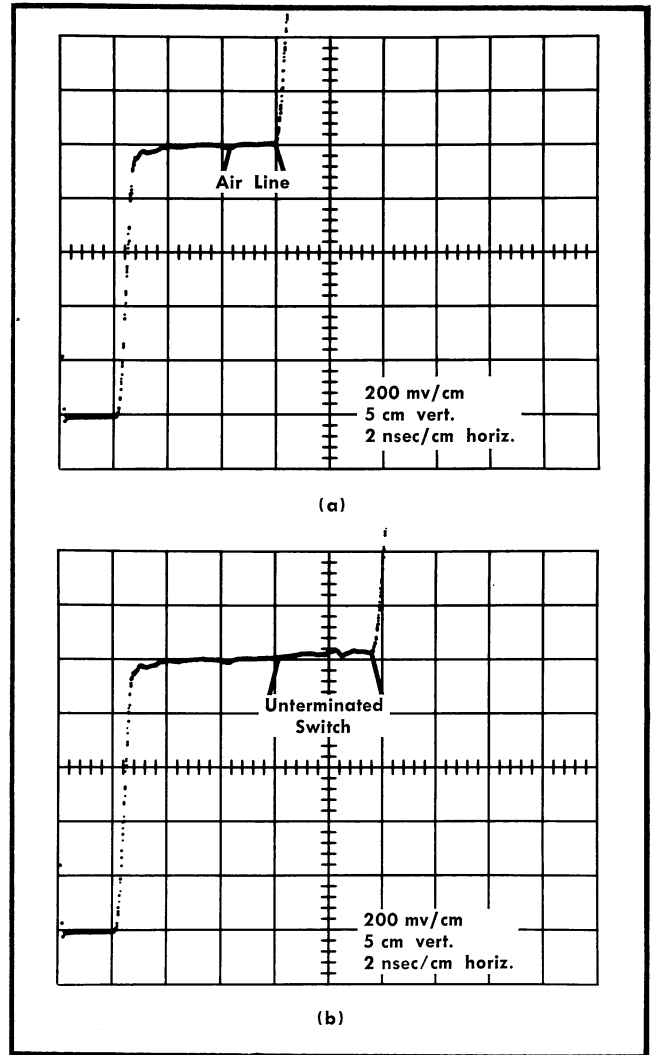

Fig. 4-3. Setting up the reflectometer for step 3.
- Disconnect the Type 261 switch from the end of the air line. Adjust the pulse generator output and the oscilloscope position control to obtain a display similar to Fig. 4-3 (a).
The reflectometer waveform shows signal travel down and back through the reflection stub; thus the 1-nsec delay air line appears as 2 nsec of the display as shown in Fig. 4-3 (a). Likewise, the
2-nsec delay in the Type 261 switch appears as 4-nsec of the display as shown in Fig. 4-3 (b).
- Connect the Type 261 switch to the air line, without the 50 Ω termination. The display should be as shown in Fig. 4-3 (b).